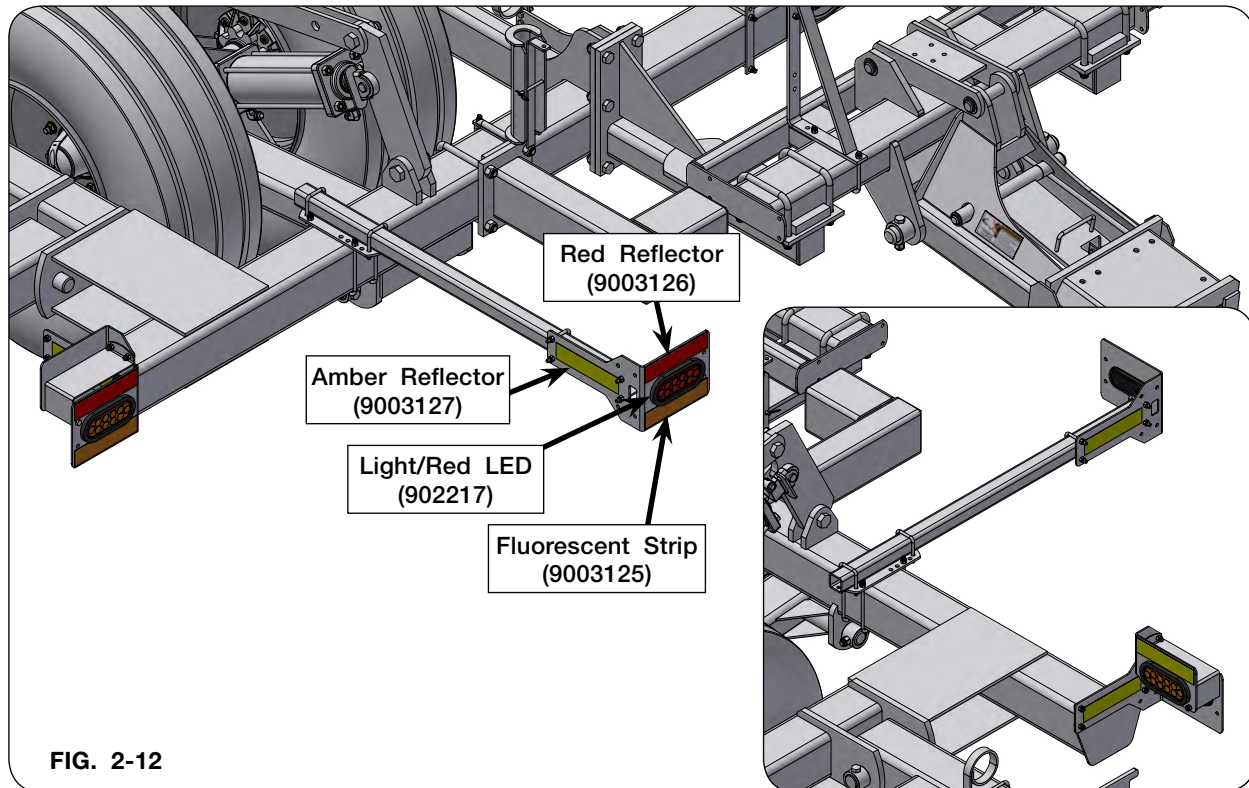

FIG. 2-12
1. Attach the light post mounting plate (JAM3408) with 3/8"-16UNC x 7" x 6 7/16" U-bolts (JBP3351) and 3/8"-16UNC elastic locknut (9398-012). (FIG. 2-12)
2. Place light bracket tube (JAM3416) on light post mounting plate (JAM3408). Secure tube with 3/8"-16UNC x 2" x 3" U-bolts (JBP3736) and 3/8"-16UNC elastic locknut (9398-012). (FIG. 2-12)
4. Install oval grommet (97182) into rear light bracket (JAM3414). Insert red oval tail light (902217). Attach rear electrical wiring harness (JAP3222) to red oval tail light (902217). (FIG. 2-12 & FIG. 2-13)
5. Attach rear light bracket (JAM3414) with 3/8"-16UNC x 2" x 3" U-bolts (JBP3736) and 3/8"-16UNC elastic locknut (9398-012). (FIG. 2-12)
6. Install yellow/amber reflector (9003127) to outside of rear light bracket (JAM3414). (FIG. 2-12)
7. Place orange decal (9003125) above red oval tail light (902217) and red reflector (9003126) below. (FIG. 2-12)